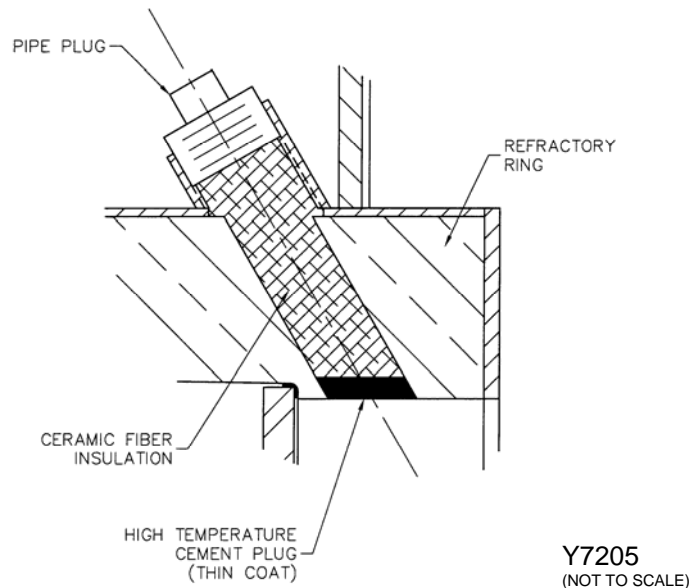

Figure 5. Alternate Port Sealing Instructions
10. If the observation port, pilot, and UV scanner must be relocated during installation due to interferences with piping, etc., the alternate ports can be utilized as follows (see Figure 5):